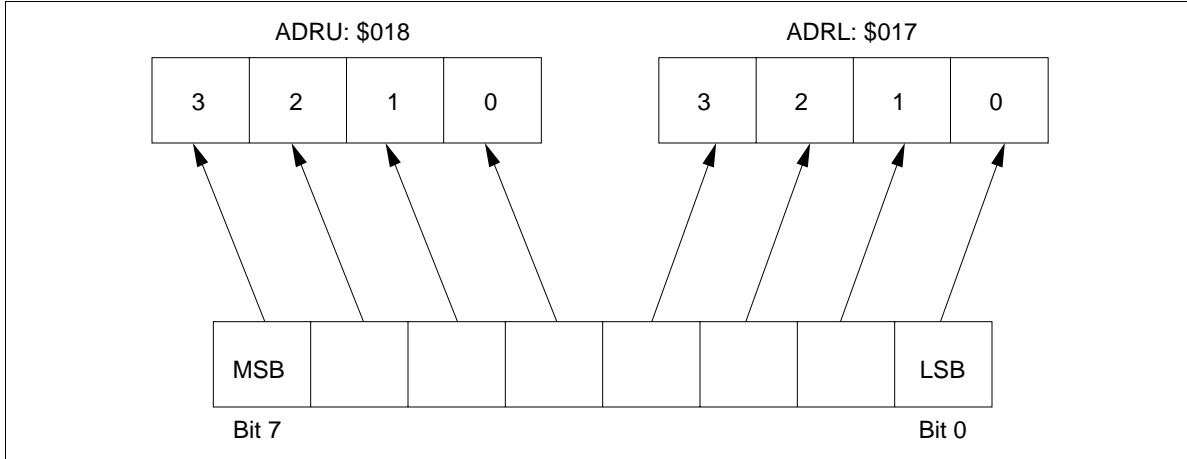

**Figure 74 IAD Off Flag (IAOF)**
**IAD Off Flag (IAOF: \$021, Bit 2):** By setting the IAD off flag to 1, the current flowing through the resistance ladder can be cut off even while operating in standby or active mode, as shown in figure 74.